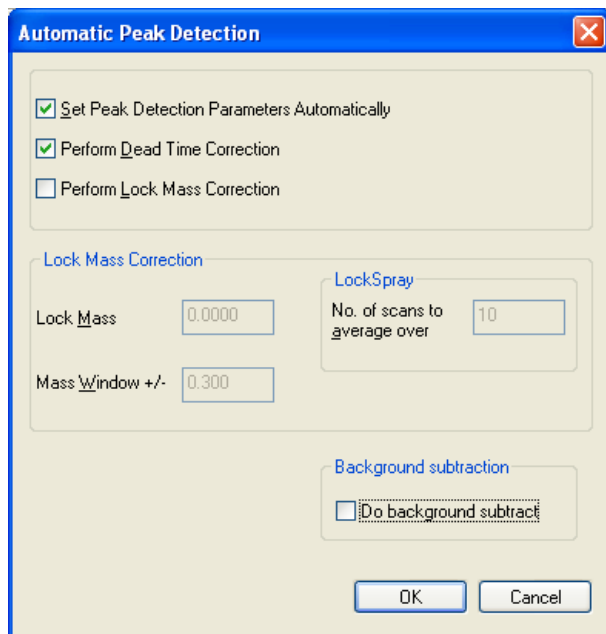

Figure 44 - Automatic Peak Detection
- Complete the display as shown in Figure 44.